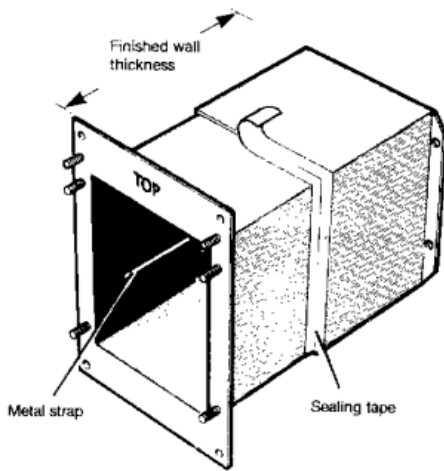

Fig. 8
2.4 Adjust the Flue Duct and Secure it to the Wall - See Fig. 8.
2. Ensure that the metal straps, See Fig. 8, inside the flue duct are still within their location.
4. Bend back the two metal straps, See Fig. 8, inside the flue duct to lock the outer flue duct to the inner flue duct.